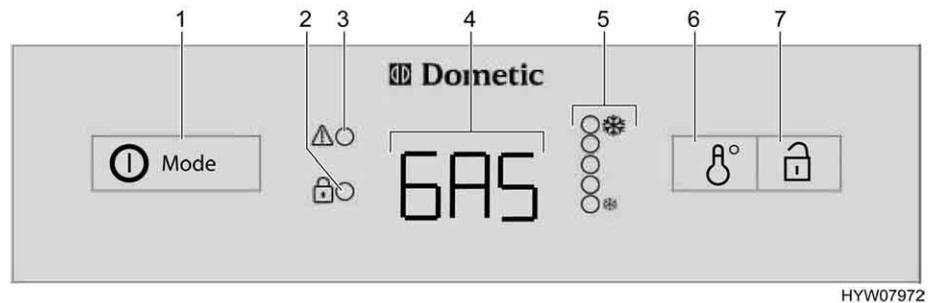

Fig. 235 Operating controls for the refrigerator (Dometic 8 series with AES)
In the case of a fault, the LED display fault will flash "⚠" (Fig. 235,3).
If the automatic mode is selected, 230 V power supply is **not** connected and the vehicle's engine is **not running**, the AES selects the gas supply. When selecting gas operation the ignition fuse is opened automatically so gas can get into the burner. At the same time the electronic ignition is activated. If the gas flame is extinguished, e.g. by blast of wind, the ignition is activated immediately and re-ignites the gas. In the case of a fault in gas operation the text "GAS" flashes in the operating indicator (Fig. 235,4).
When turned on the first time the refrigerator automatically selects the middle thermostat position. This position can be adjusted manually by using the switch for temperature setting (Fig. 235,6). The indicator LEDs (Fig. 235,5) show the selected thermostat position. The refrigerating temperature for the three types of energy is set with the switch. It takes a few hours till the refrigerator reaches its normal operating temperature. When changing over the operating mode the thermostat setting will be maintained. The refrigerating temperature is retained regardless of the type of power being used.
- Press the on/off switch/energy selector switch (Fig. 235,1) down for 2 seconds in order to switch on the appliance. The operating mode selected most recently is shown in the operating indicator (Fig. 235,4).
- Select the energy type with the on/off switch/energy selector switch (Fig. 235,1).
- Set the refrigerating temperature on the switch for temperature setting (Fig. 235,6). The indicator LEDs (Fig. 235,5) show the selected thermostat position.
- Press down the on/off switch/energy selector switch (Fig. 235,1) for 2 seconds. All displays close.